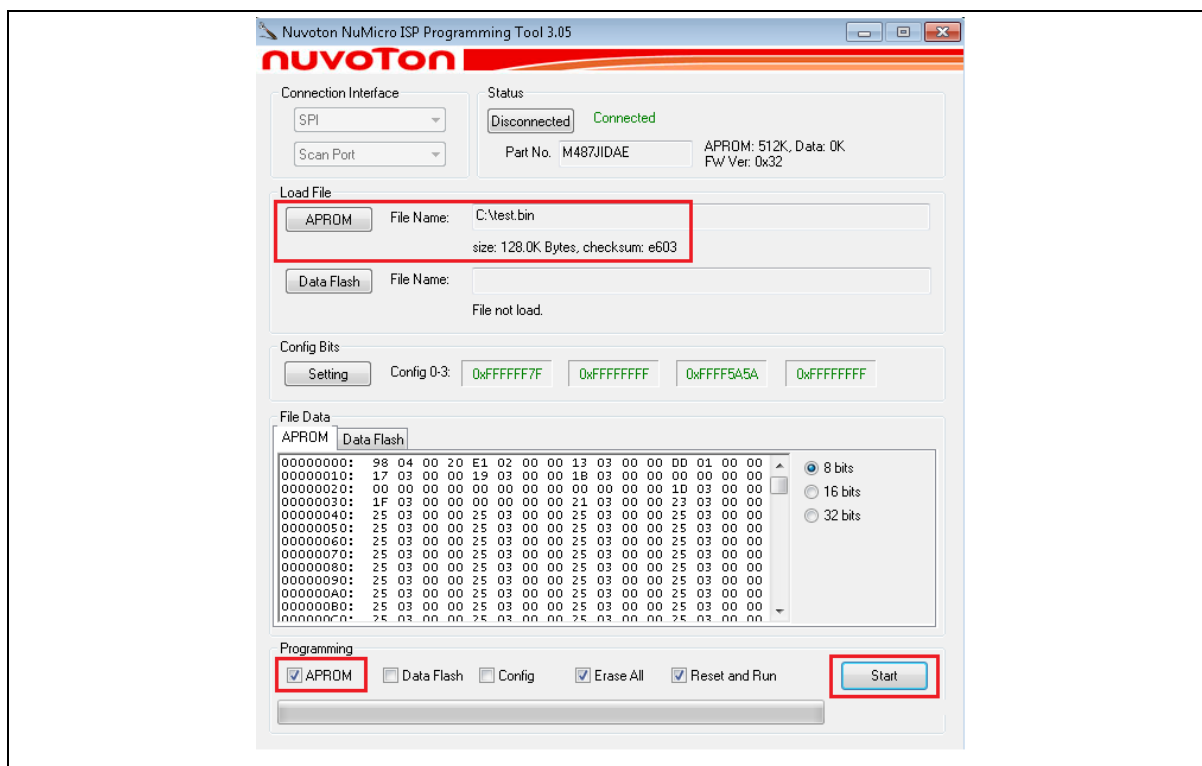

Figure 5.2-53 Program Data to Target Chip with SPI Interface
- (11) Load programming file and check the programming option and click **Start** button. ISP Programming Tool start to program file to target chip by user selected connection interface as shown in Figure 5.2-53.